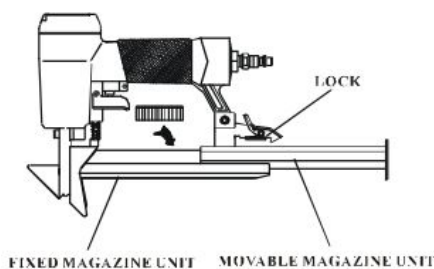

Figure 3
1. Depress the LOCK(60) to release the MOVABLE MAGAZINE (51) and pull the magazine out fully as shown in Figure 3.